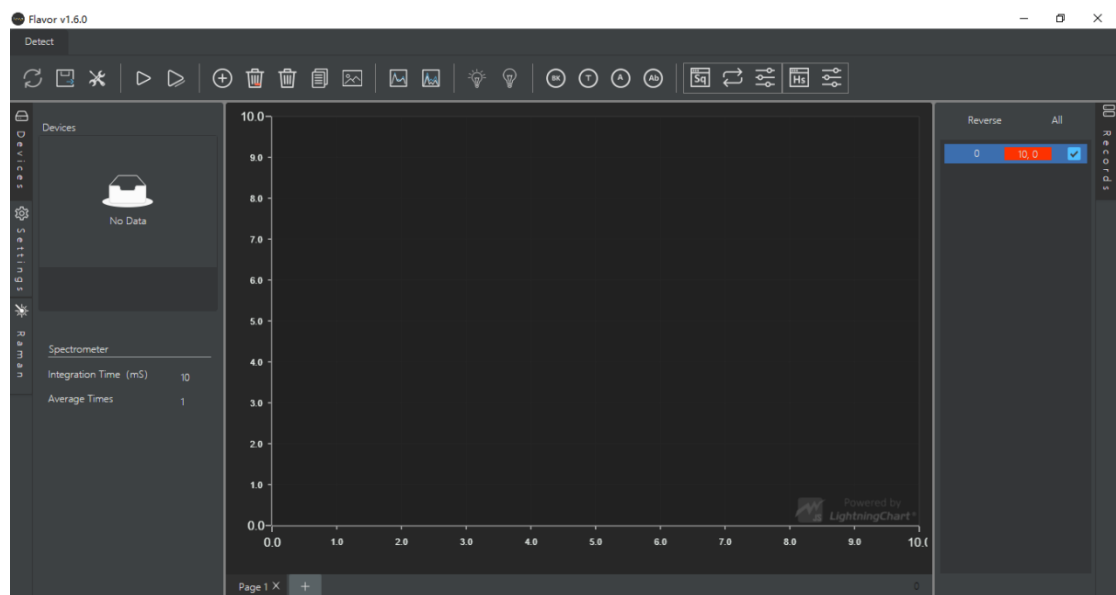

Figure 2.3
- After the installation is complete, the FLAVOR shortcut will be automatically generated on the desktop, and the FLAVOR software interface will be directly entered. As shown in Figure 2.3.